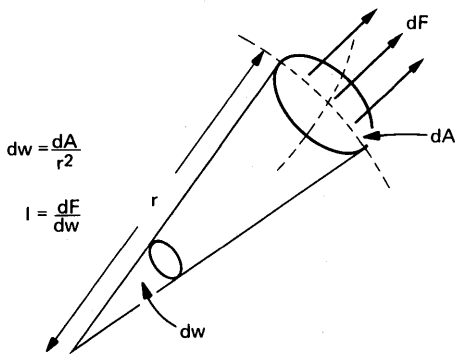

Figure 3. Solid angles and luminous intensity.
Since it is generally not practical to collect all the flux from a light source, and direct it in some desired direction, it is desirable to know how the flux is distributed spatially about the source. If we treat the source as a point (far field measurement), we can divide the space around the source into elements of solid angle, $(d\omega)$, and inquire as to the luminous flux (dF) contained in each element of solid angle $(\frac{dF}{d\omega})$. The resulting quantity is Lumens/Steradian and is called LUMINOUS INTENSITY (I), (Fig. 3). The unit of Luminous intensity is called the CANDELA, sometimes loosely called the candle, or candle power.